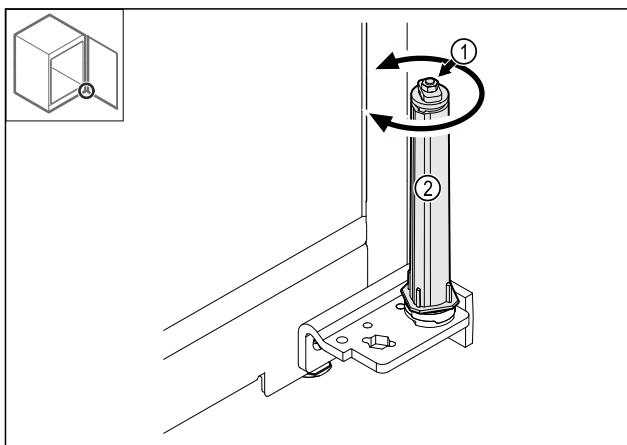

Fig. 43
- ▶ Do not disassemble the screw connection *Fig. 43 (1)* of the closing system.
- ▶ Turn the closing system *Fig. 43 (2)* until it clicks.